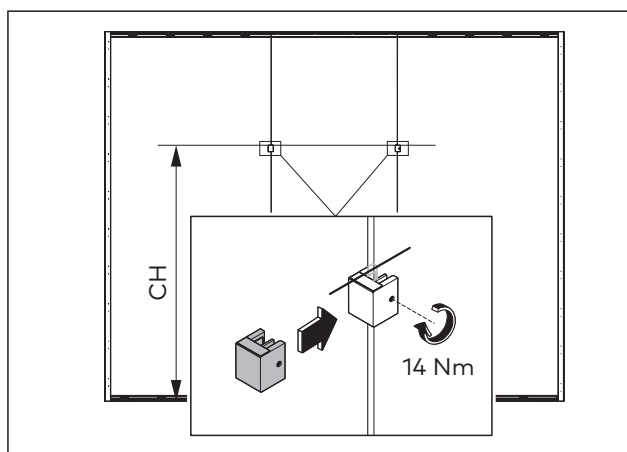

Fig. 5 Attaching the mounting aids
2. Take the clear height (CH) from the project-related unit drawing.
3. Attach the two mounting aids to the right and left of the side panel with the gaskets upwards (Fig. 5).